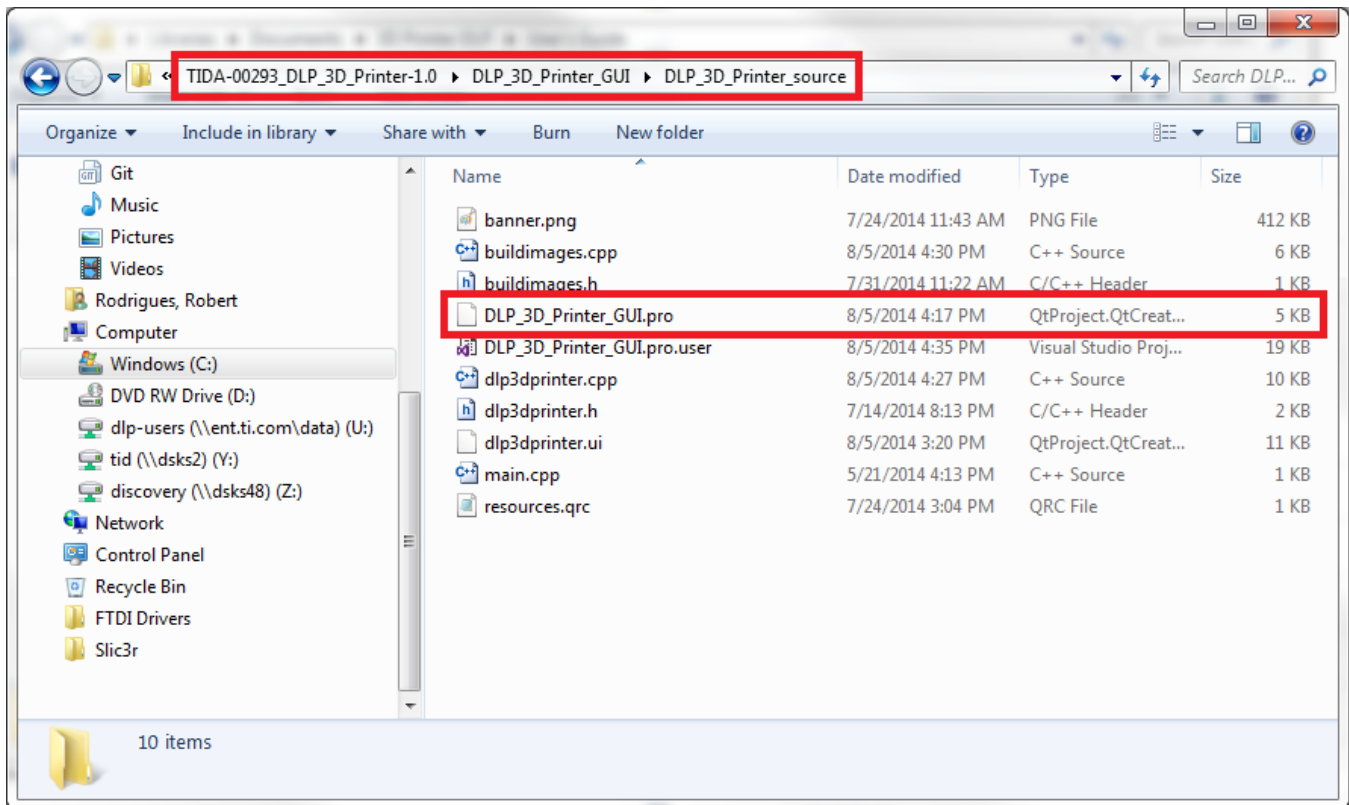

Figure 4-34. QT .pro File Location
2. Navigate to, and open, the file named "DLP_3D_Printer_GUI.pro" in the DLP 3D Printer Software install path, as shown in Figure 4-34.